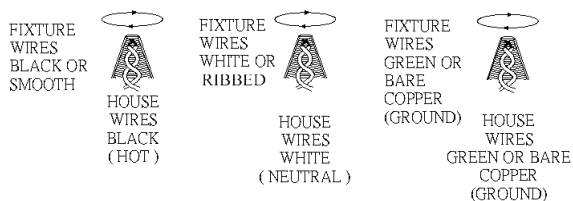

Fig.3
## CONNECTING THE WIRE (See fig.3)
1. At this point, connect the electrical wires as shown in Fig. 3, making sure that all wire connectors are secured. If your outlet box has a ground wire (green or bare copper), connect the fixture's ground wire to it. Otherwise, connect the fixture's ground wire directly to the cross bar using the green screw provided.
2. Tuck the wire connectors neatly into the ceiling outlet box and raise the canopy (U) and collar ring (Y). Then thread collar ring (Y) onto collar loop (T) protruding through canopy.